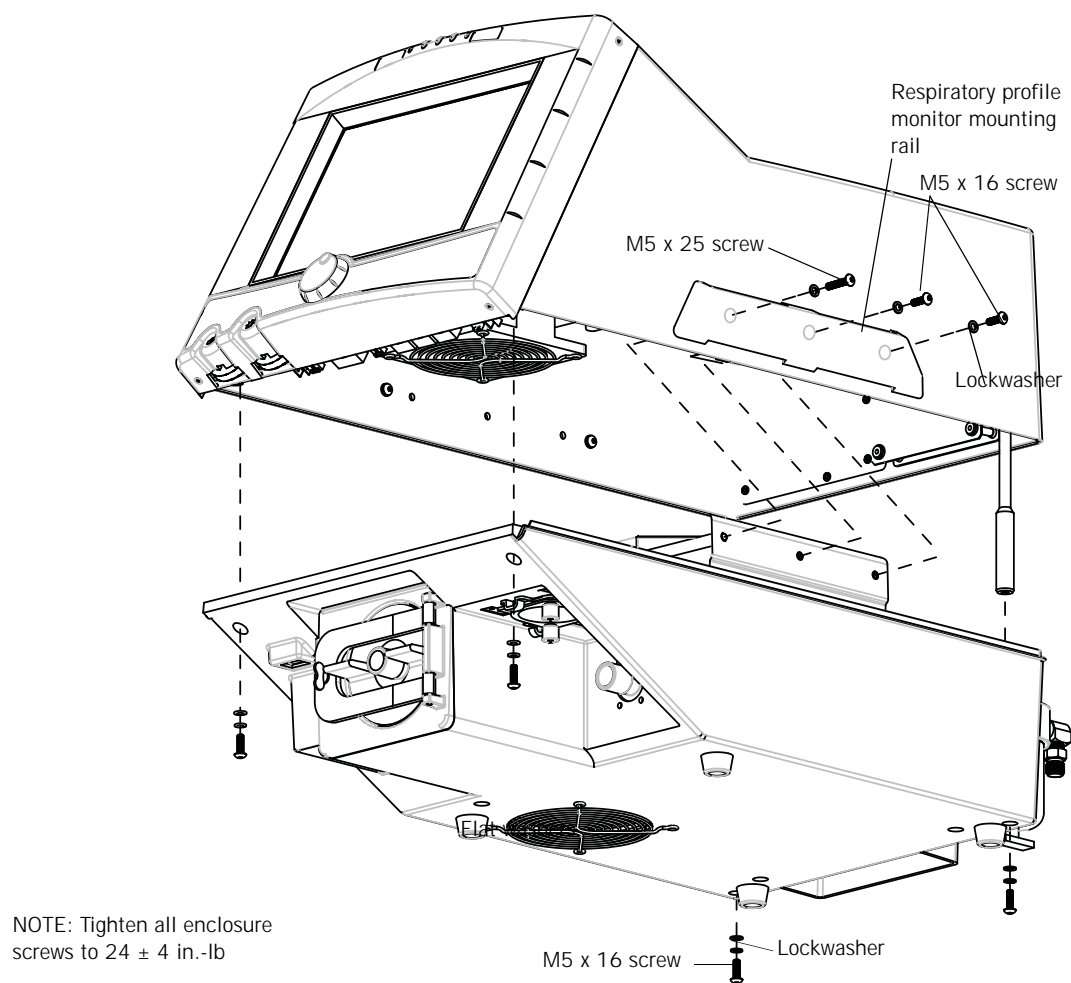

Figure 10-13: Separating the Top and Bottom Enclosures
3. Using a 3-mm hex driver, remove six screws (three on each side) and washers from the side panels (Figure 10-13). Two longer screws are closest to the front panel.